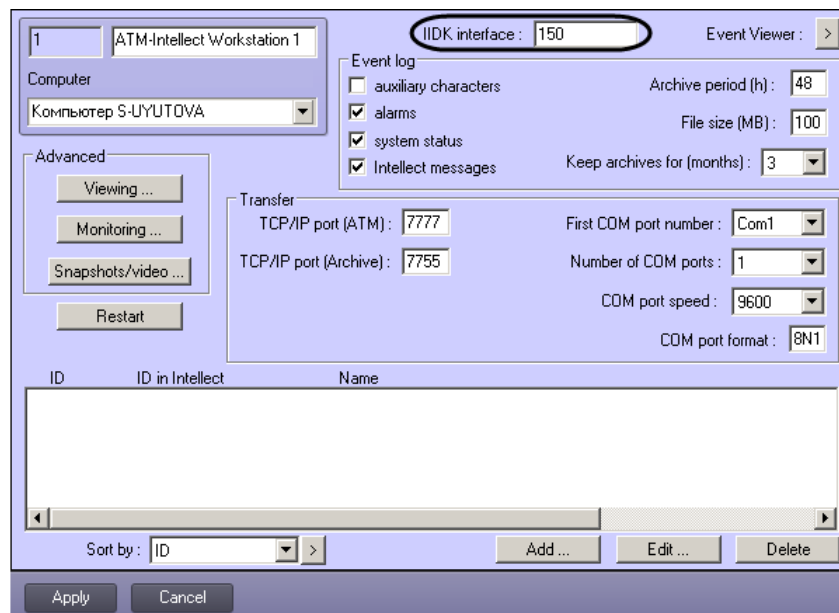

Figure 6.2—3 Settings panel of the ATM-Intellect workstation object
5. In the **IIDK interface** field enter the identification number of the **IIDK interface** object created on step 2 (see Figure 6.2—3).